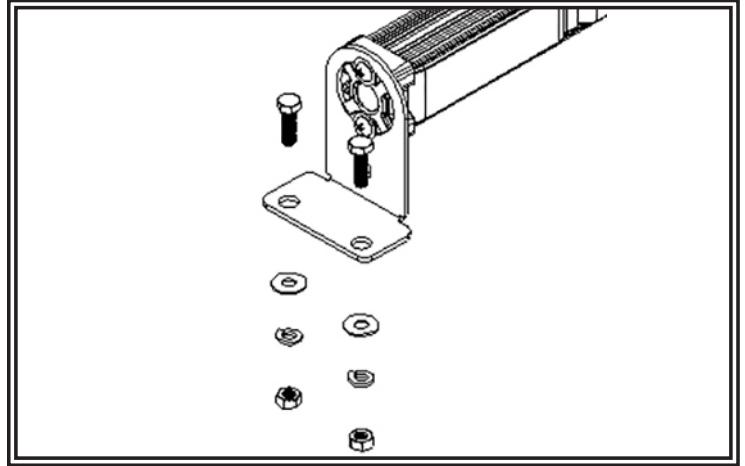

Figure 1
Step 1. Loosely assemble a mounting bracket to each end of the unit as shown in FIGURE 1 using the included hardware.